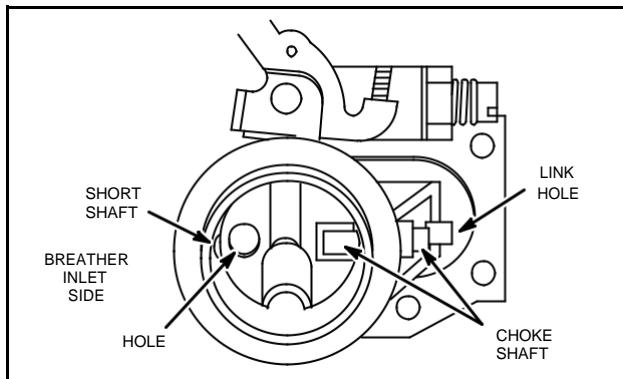

Fig. 158 - ASSEMBLING AUTOMATIC CHOKE
2. Insert choke shaft into choke shaft bore with automatic choke link hole positioned as shown in Fig. 158.